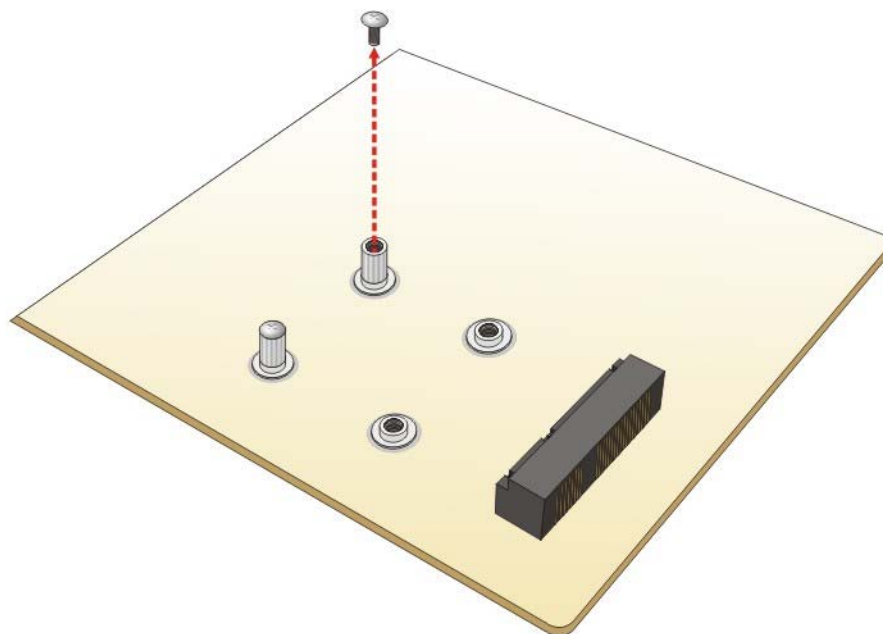

Figure 4-5: Removing the Retention Screw
Step 2: **Remove the retention screw.** Remove the retention screw as shown in **Figure 4-5**.